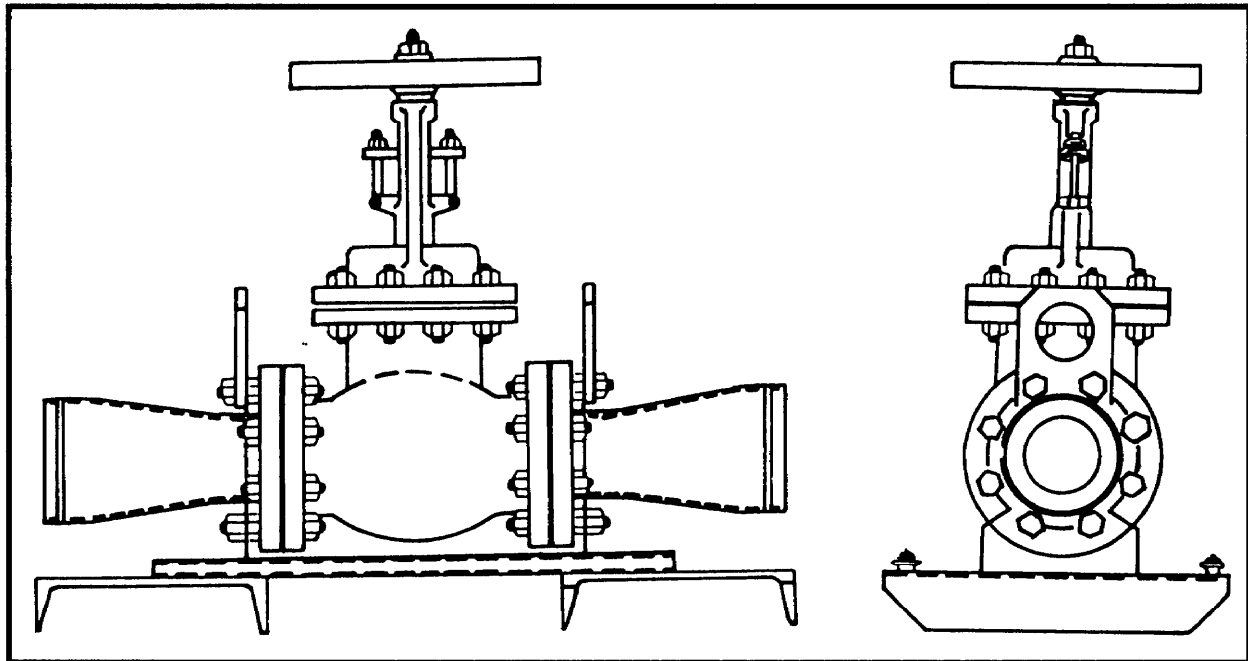

Figure 2-10. Ball valve
(8) Ball Valve. This valve (Figure 2-10) is used in switching manifolds to regulate the flow of fuel. The ball valve is not used in mainline pipe systems because scrapers cannot pass through them. Replace the packing in the valve when it is too compressed to lubricate the valve adequately and tightening the packing nut no longer stops a leak around the valve stem. Use graphite rings in the packing plan.